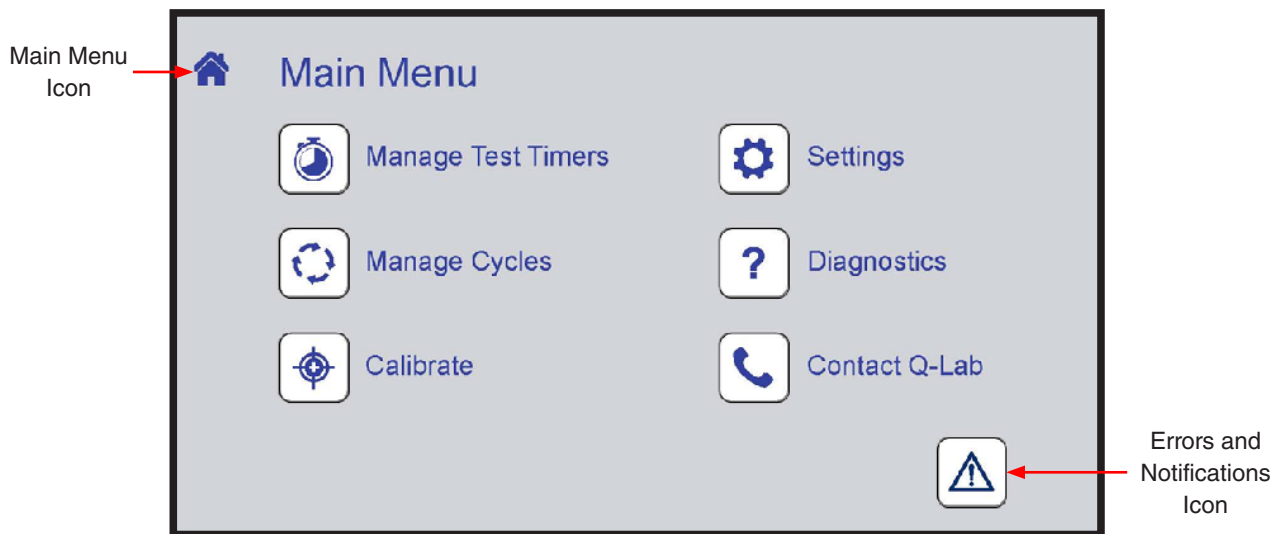

Figure 9.3a: Main Menu screen.
- The Main Menu is the home display for the menu screen (Figure 9.3a).